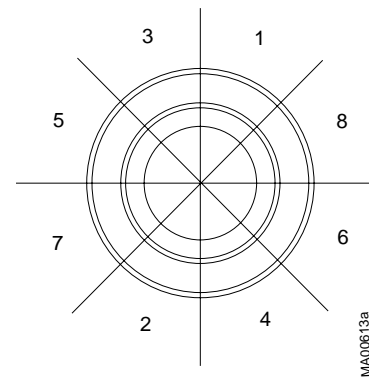

FIGURE 12 Weld Sequence
- Weld the nipple to the process vessel using 0.032"/316 stainless steel rod as filler in the beveled area surrounding the nipple. Adjust amperage for a continuous weld depth of 0.080"/2 mm penetration. The weld sequence is shown in Figure 12.